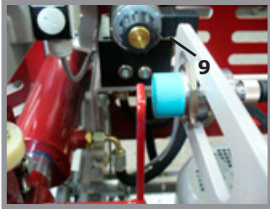

Fig. 6
The control valve (9) automatically switches over in its neutral position and the cylinder is stopped, if the protection grid is removed or opened while the machine is operated (see figure 6).